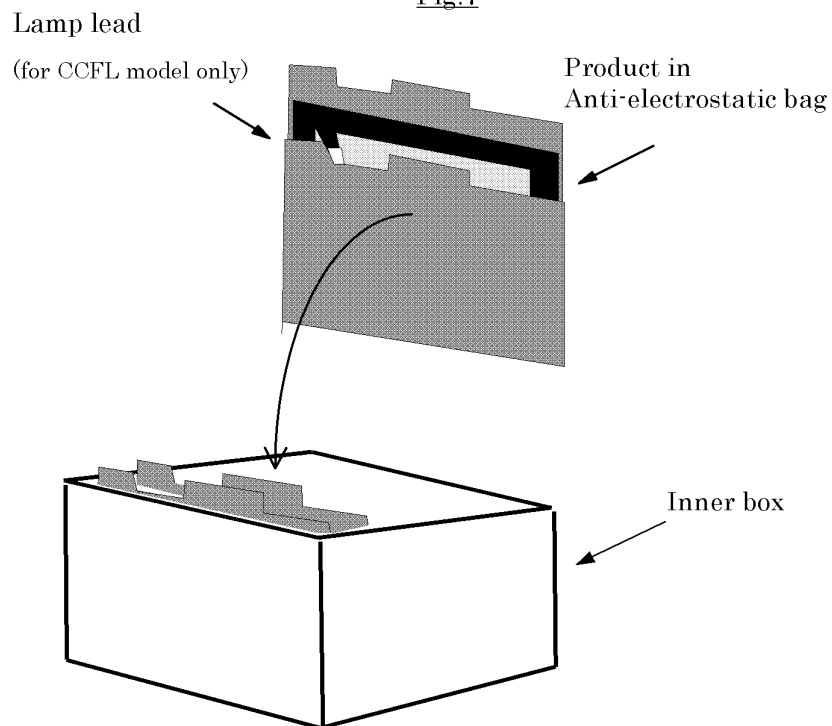

Fig.8
- (2) Packed LCD module is put in the packaging box.(Fig.8)